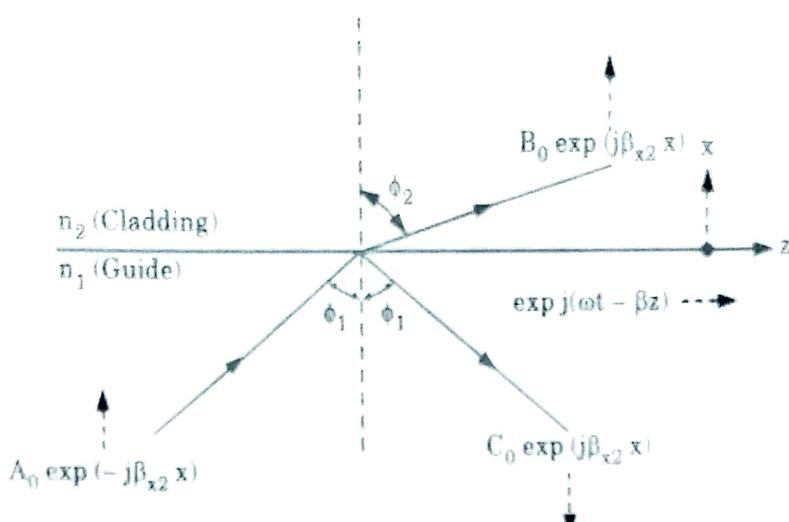

Fig. 1.15.1.
5. Thus, the three waves in the waveguide indicated in Fig. 1.15.1. The incident, the transmitted and the reflected, with amplitudes A_0 , B_0 and C_0 , respectively, will have the forms :